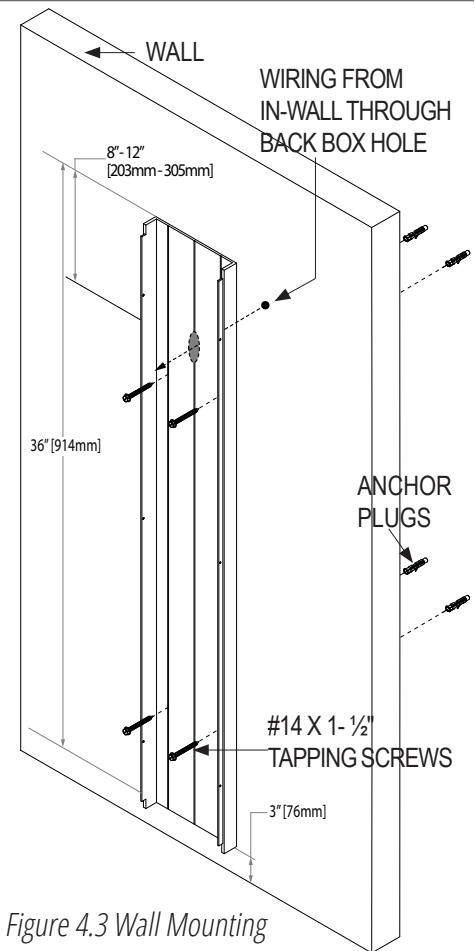

Figure 4.3 Wall Mounting
- Secure the Back Box to the wall with the #14 x 1-1/2" tapping screws provided. (Figure 4.3 and 4.4)
- Secure the Back Box to the frame with the $\frac{1}{4}$ "-20 machine screws. (Figure 4.3 and 4.4)